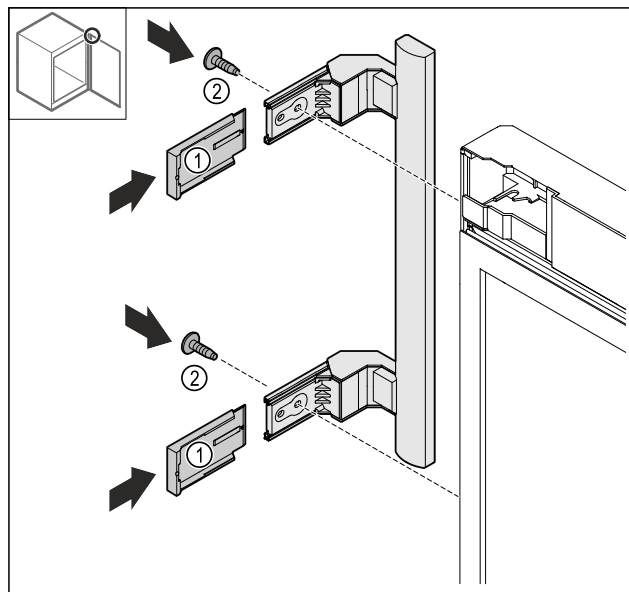

Fig. 20
- Push the covers Fig. 20 (1) on.